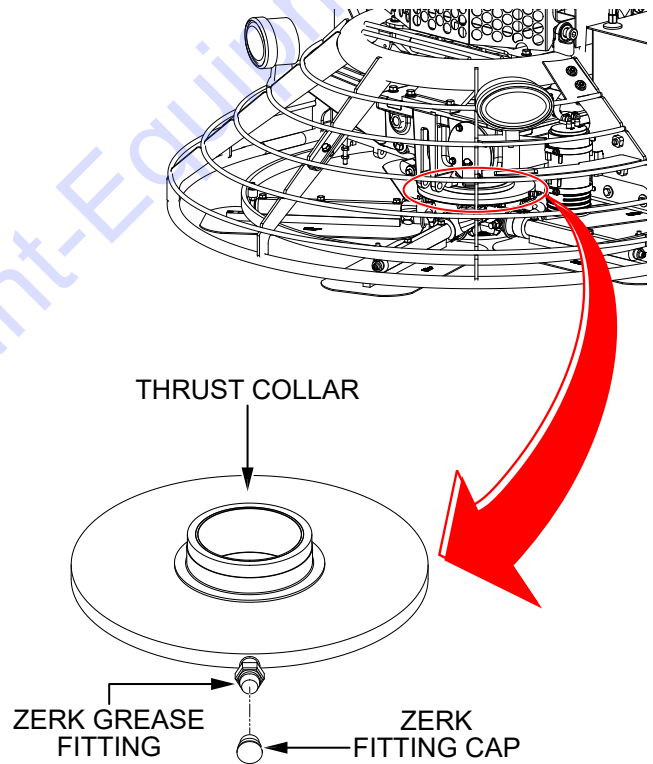

Figure 36. Thrust Collar Lubrication
1. Locate the Zerk grease fitting on either thrust collar (Figure 36). Remove the Zerk grease fitting cap and set it aside.